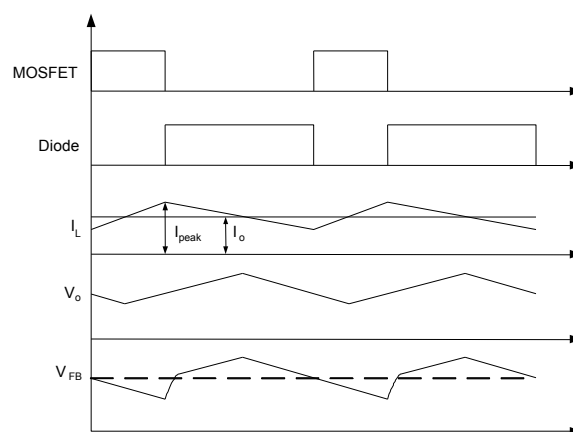

Figure 3: Constant-Voltage Regulation
The lower resistor of the internal feedback divider is 500k Ω , typically. As a result, when a feedback divider is connected to FB externally with a much smaller resistance, the internal feedback is overridden, so the MP175 output voltage is externally adjusted (see Figure 3).
As shown in Figure 3, the internal MOSFET is turned on when the feedback (FB) voltage is lower than the MOSFET turn-on threshold (V_{FB}) and is turned off based on the peak current limitation.